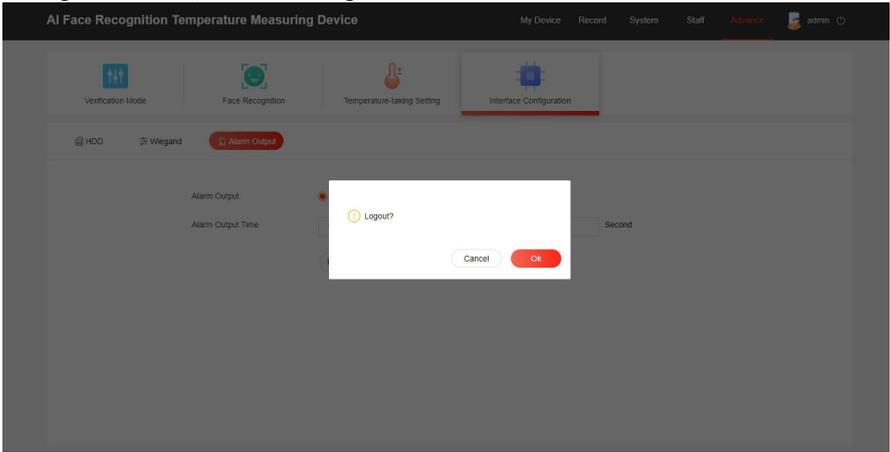

Figure 7-29
Step 1: After logging in to the web page, click “”, in the upper right corner to enter the logout interface, as shown in Figure 7-29.